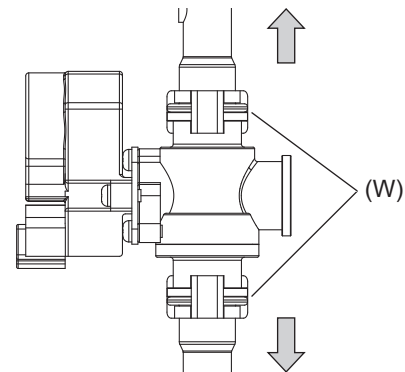

Fig.20
(2) Remove the clips (W) on the inlet/outlet of the FCV. (Fig. 20)
(3) Remove the inlet/outlet piping connecting the FCV. (Fig. 20)